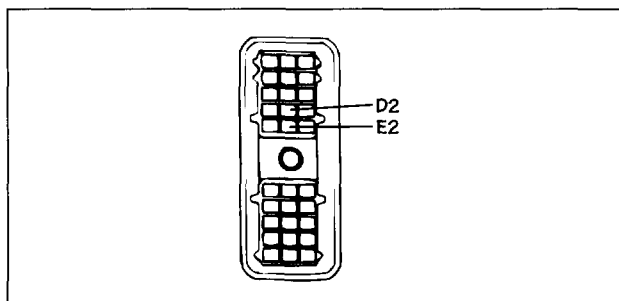

FIG. 6
5. Locate Pins E2 and D2 in the Vehicle Interface Connector. Connect the red clutch wire to pin E2 and the blue clutch wire to D2 (see Fig. 6). If the pins are not in the connector shell, they must be added.